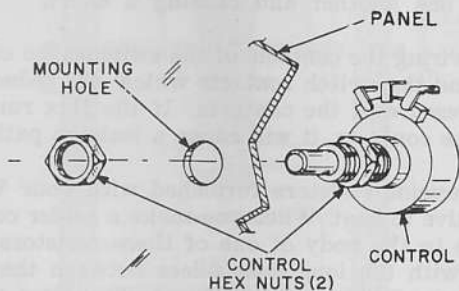

FIGURE 3. HOW TO MOUNT A CONTROL
- () Mount R-25, 10K ohms OHMS ADJUST potentiometer, in the large hole in the left center of the panel. Use two nuts to mount this control as shown in Figure 3.